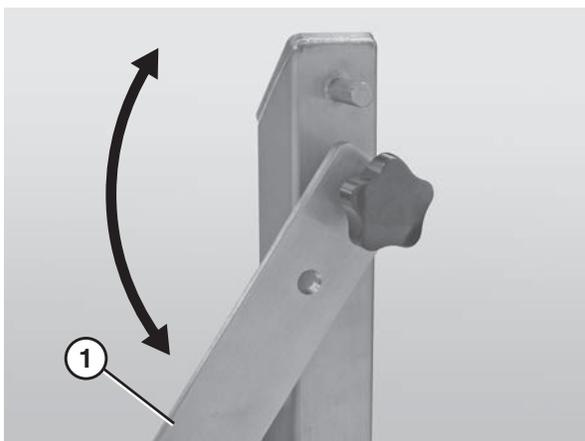

Figure 48
- Lower the quick release arm (**Figure 48, item 1**) on one of the stands. *Note: if the conveyor is not equipped with Quick Release (QR Type) stands, it will be necessary to remove the entire stand.* For detailed instructions, refer to the “Sanitary Support Stands Installation, Maintenance and Parts Manual.”